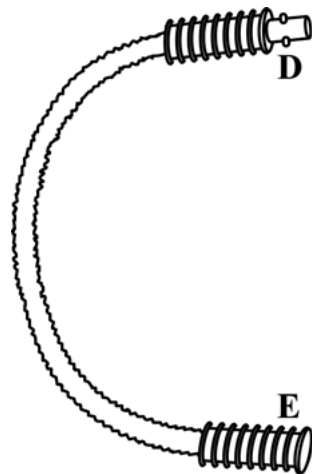

Figure 4
The *Extension Hose* (see Figure 4) of your Hot & Handy™ Steam Cleaner is designed to extend the reach of the unit. One end (D) can be inserted into the steam cleaner using steps 1 and 2 above.